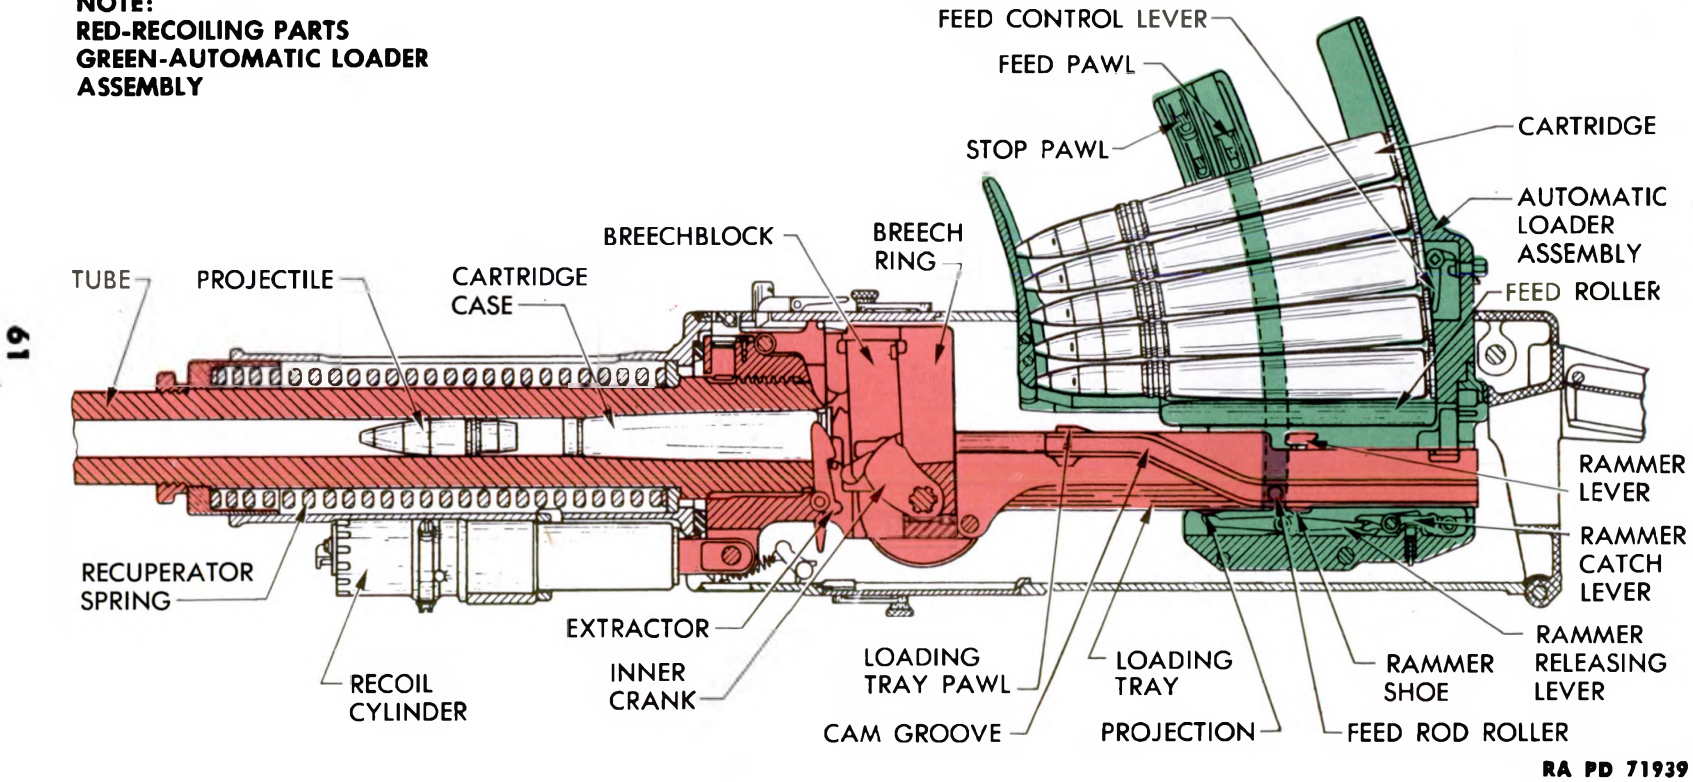
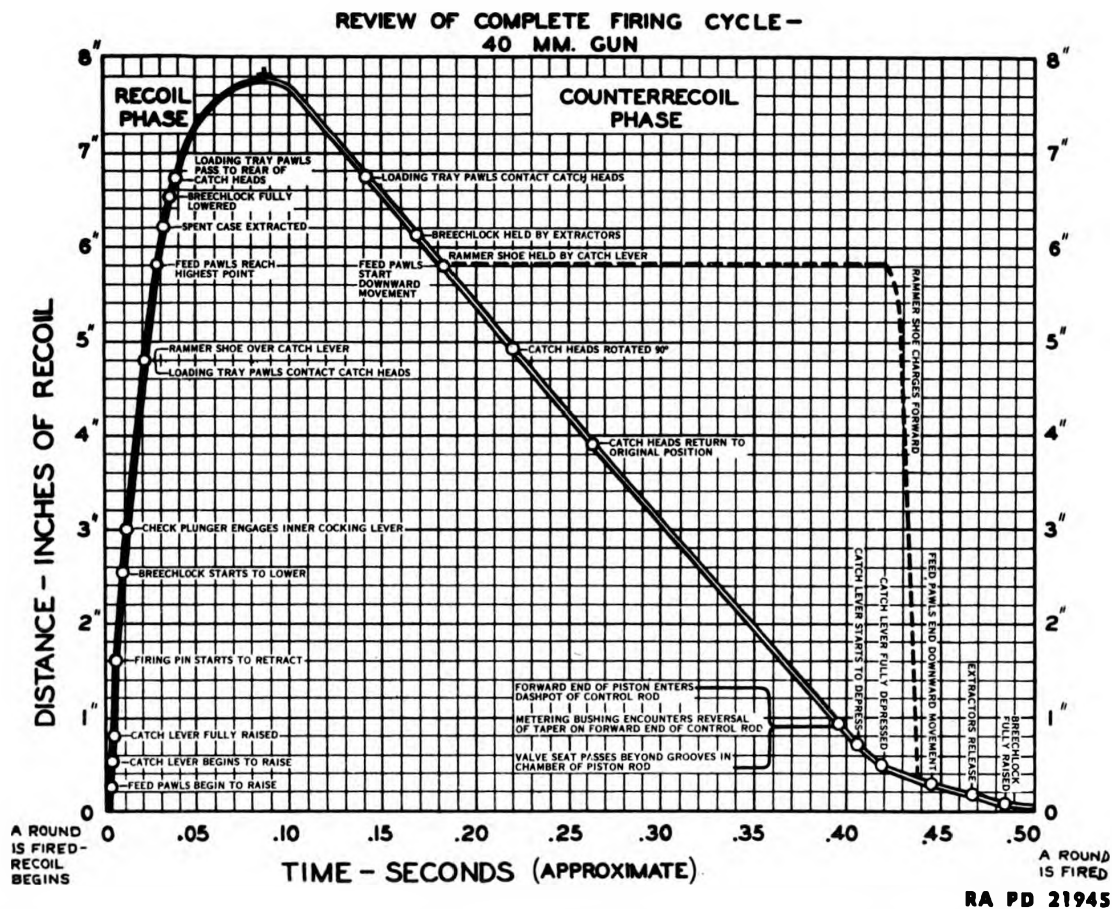

Figure 39 – Automatic Firing Cycle – First Stage – Gun Firing
Figure 45 – Time Required for Various Parts of Gun To Perform Their Functions During Recoil and Counterrecoil
(4) When the firing lever pawl disengages the trigger, the left check lever is raised to its normal position by the action of its spring-loaded plunger. The free tappet is held against the fixed tappet by the free tappet spring, and snubs its action.
a. The motions of the various parts of the gun occur in a definite and interrelated manner during the firing cycle. To bring out the relationship of the parts and to illustrate their functions at specific points during the firing cycle, six drawings have been prepared (figs. 39 through 44) which show the actions and positions of the affected parts at six stages during the cycle.
c. Part of the firing cycle occurs during recoil; the balance occurs during and at the end of counterrecoil. In the illustrations (figs. 39 through 44), the recoiling parts of the weapon are shown in red; the automatic loader is shown in green. Figure 45 shows the time required for the various parts of the gun to perform their functions during recoil and counterrecoil.
(1) **FIRST STAGE.** Figure 39 shows the position of the parts just after the percussion cap of the cartridge has been struck by the firing pin. Immediately after firing, the tube, breech ring, and loading tray begin to recoil and the projection on the bottom of the loading tray relieves its pressure from the rammer releasing lever, permitting the rammer catch lever to raise. During the first few inches of recoil, the outer crank rotates enough to cause the firing pin to be withdrawn into the breechblock.
(2) As recoil continues, the outer crank continues to be rotated by the cam surfaces of the side cover. The inner cranks begin to lower the breechblock. In doing so, they actuate the outer cocking lever which cocks the firing pin for the next shot. The check plunger engages the inner cocking lever.